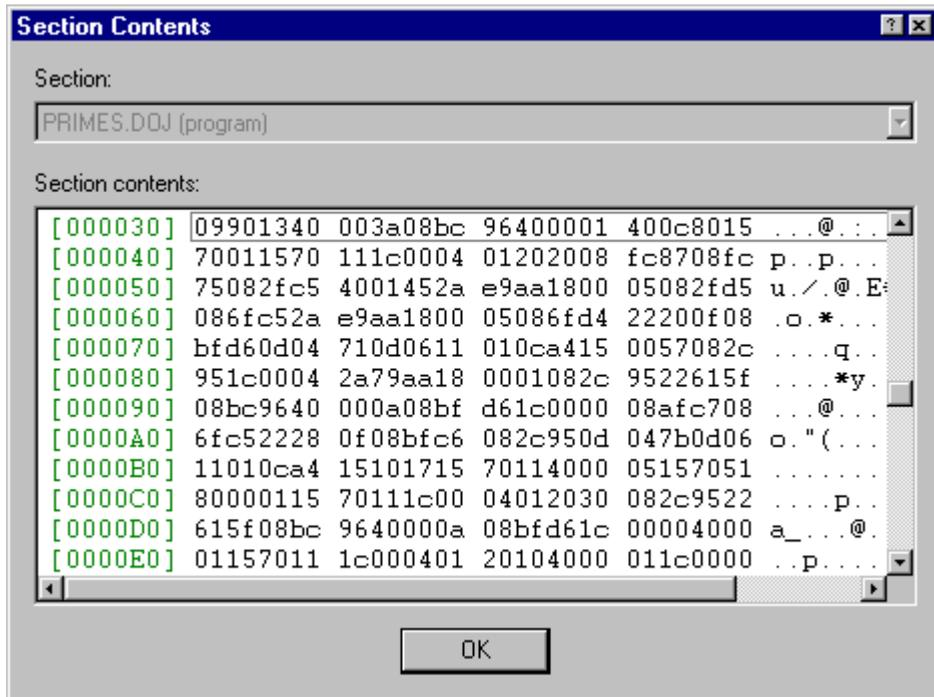
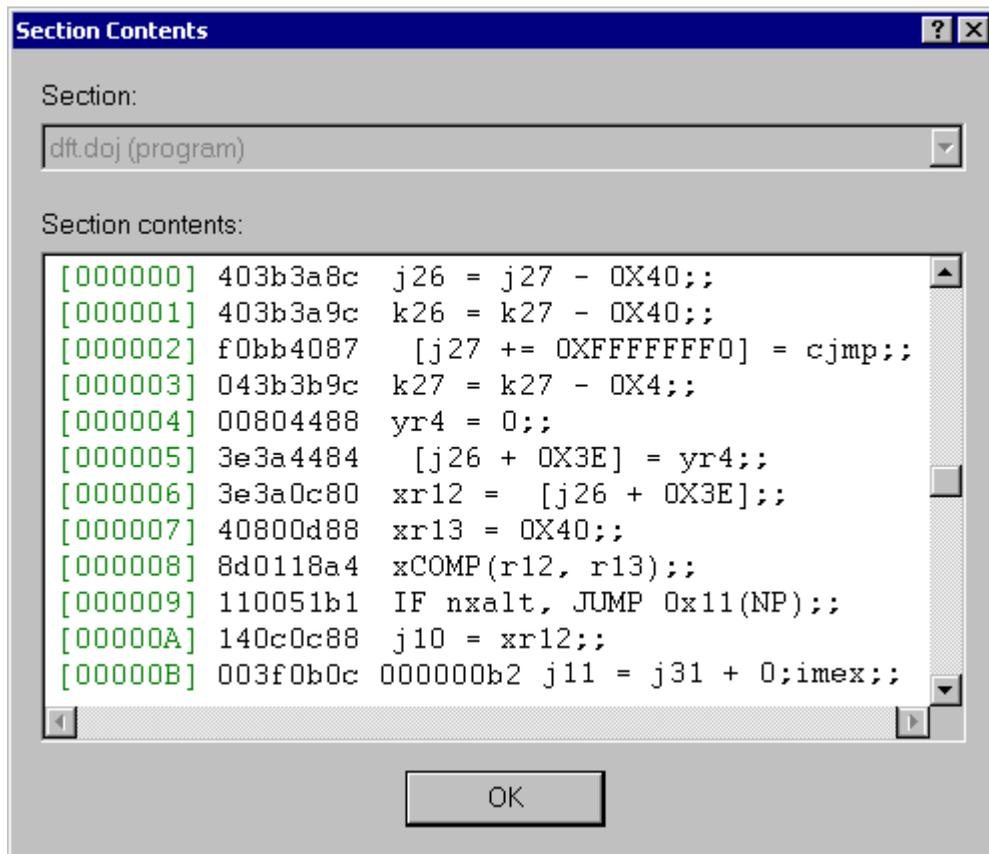
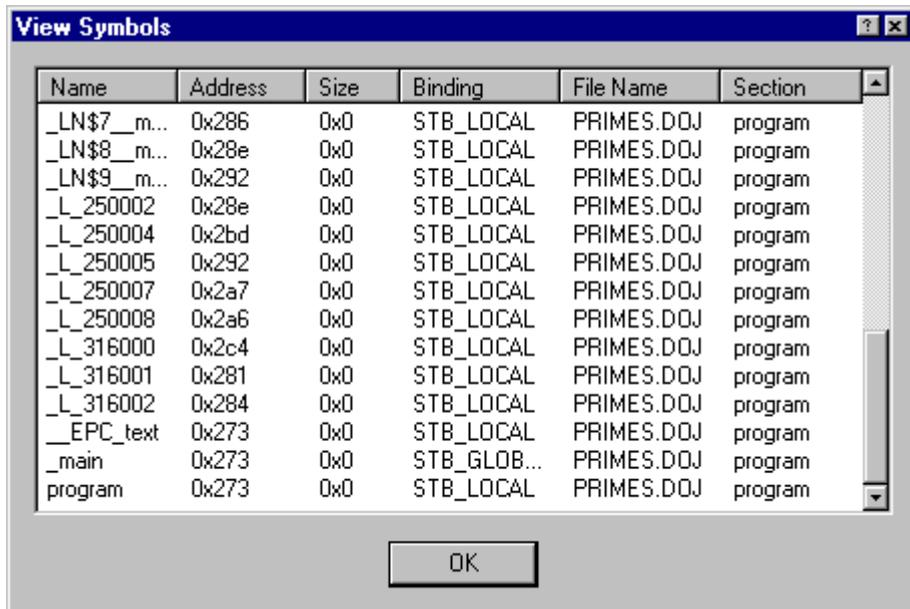

Figure 3-28. Output Section Contents in Hex and ASCII Format
Figure 3-29. Output Section Contents in Hex and Assembly Format
Figure 3-30. View Symbols Dialog Box
**View Section Contents** – Available only after linking or building the project and then right-clicking on an input or object section. This view invokes a dialog box that displays the contents of the input or output section (see Figure 3-28 on page 3-37).
Figure 3-28, Figure 3-29, and Figure 3-30 illustrate memory data formats available for the selected output section.